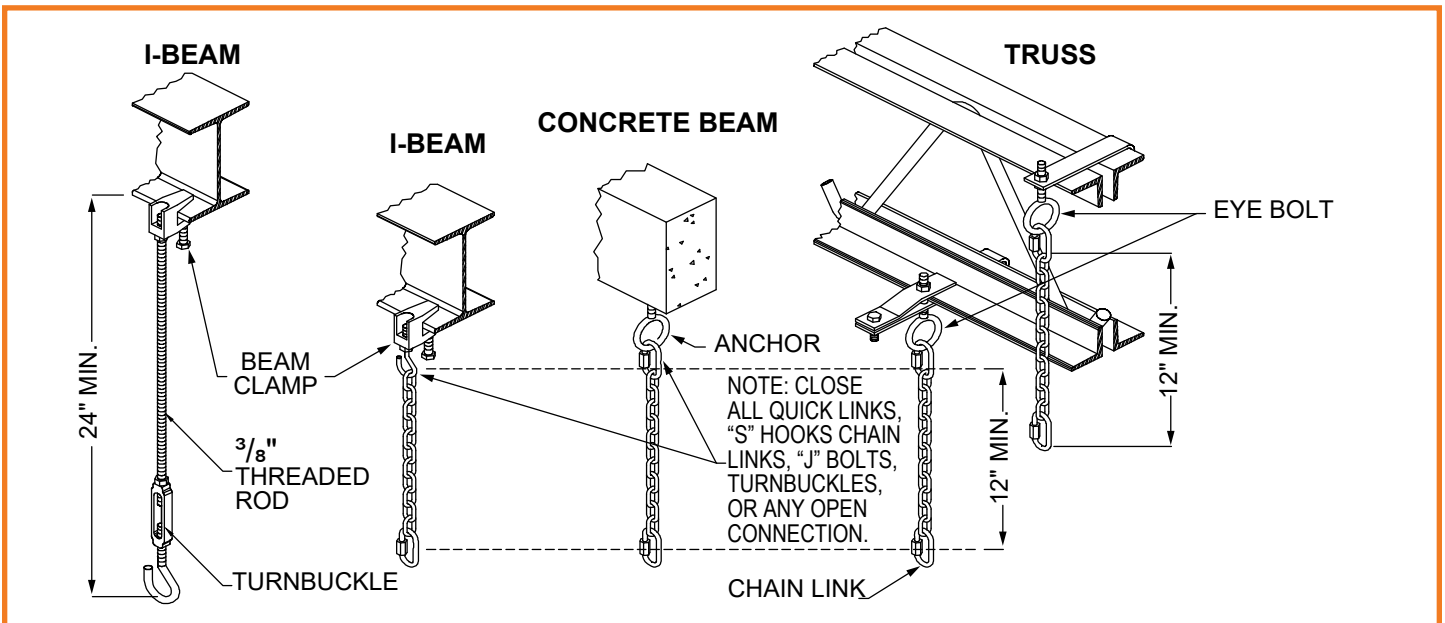
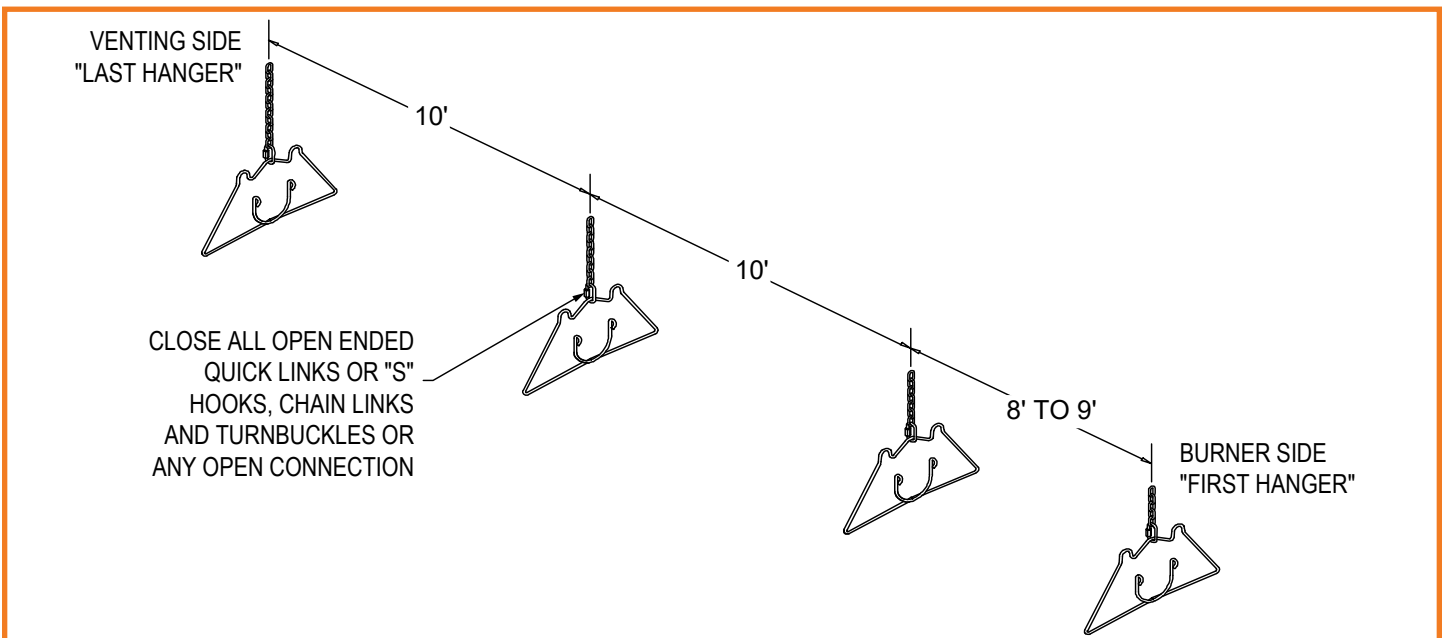

Figure 7: Suspension Mechanism
Figure 8: Typical Hanging Points
- The suspension mechanism must allow for lateral tubing expansion. A minimum 12" length welded link chain with a working load limit of at least 200 lbs. is recommended (refer to Figure 7 for more details). The Manufacturer recommends and makes available "quick links" for connecting chain. If any open ended "S" hooks and turnbuckles are used, the open ends must be closed to avoid unhooking chain with inadvertent contact.
- Locate hanging chain at predetermined suspension points in the structure. It is required that the first 2 hangers be about 8' to 9' away. Thereafter, 10' apart on average is acceptable for the remainder of the heat exchanger. At no time should hangers be more than 12' apart, (see Figure 8).
- Install the tube and reflector support hanger on the chain with Quick Links or 'S' hooks refer to Figure 7 and Figure 8.